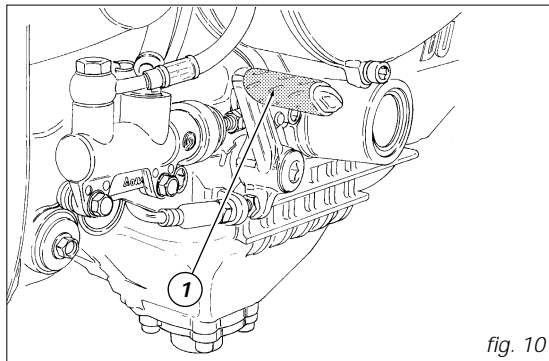

fig. 10
*Rear brake pedal (fig. 10)*
*Push down on the pedal (1) with your foot to operate the rear brake.*